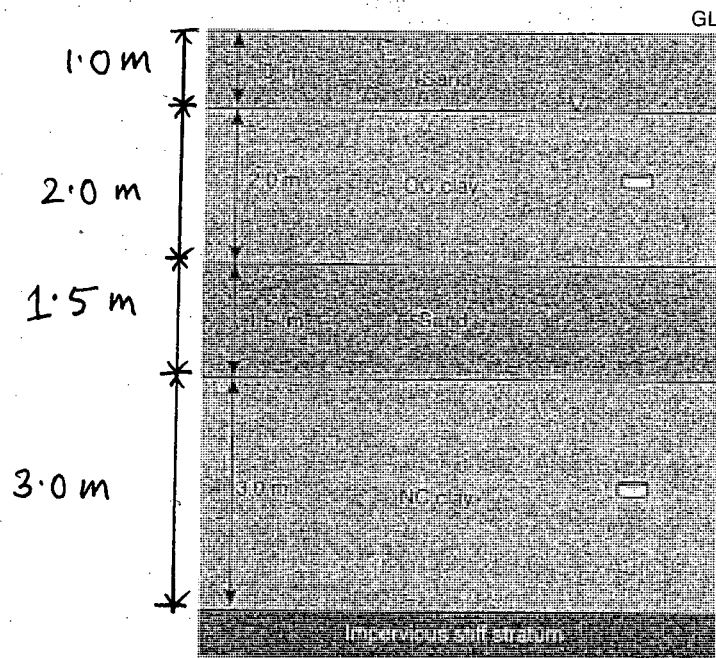

Fig. 2
(b) Two undisturbed clay samples were taken from the middle of the O.C and N.C clay layers as shown in **Fig. 2**. The water table is at the top of the O.C clay layer. Consolidation tests were carried out on the two samples and the results were summarizes as: (30)